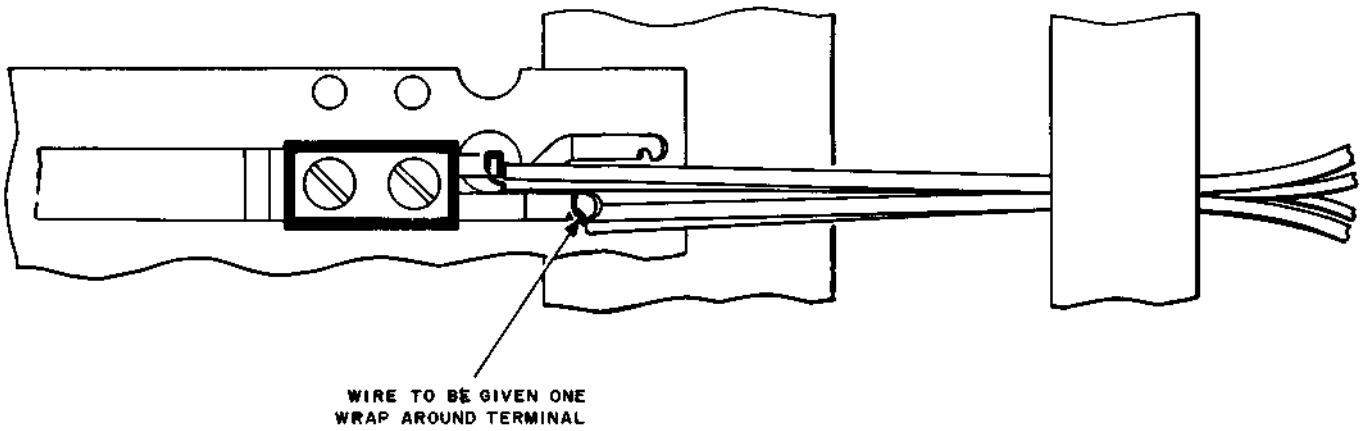

Fig. 20—Permanently Bridged Cross-Connections on Protectors (other than the 300-type Connector or the Replaced 121-Type Protector)
13.01 When it is necessary to terminate two permanent jumpers on one set of terminals, both jumpers shall be connected to the terminals as shown in Fig. 20 through 23. (Refer to 8.14).